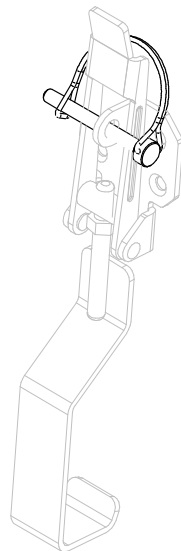

Figure 20
18. Adjust the hook latches length. Cover should close tightly. Place splints through the latch hook, like shown in **figure 20.**